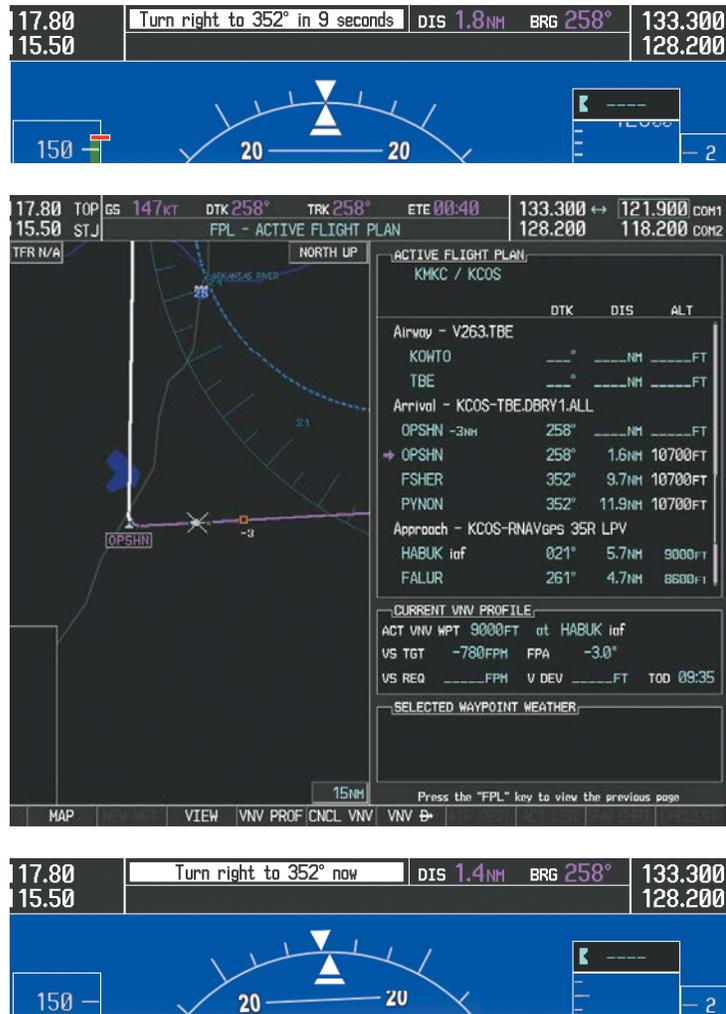

Figure 5-140 Turn to intercept OPSHN to FSHER Leg
- 18) The aircraft is approaching OPSHN. The upcoming turn and next heading are announced at the top left of the PFD as seen in Figure 5-140. Initiate the turn and maneuver the aircraft on a track through the turn radius to intercept the magenta line for the OPSHN to FSHER leg and center the CDI.